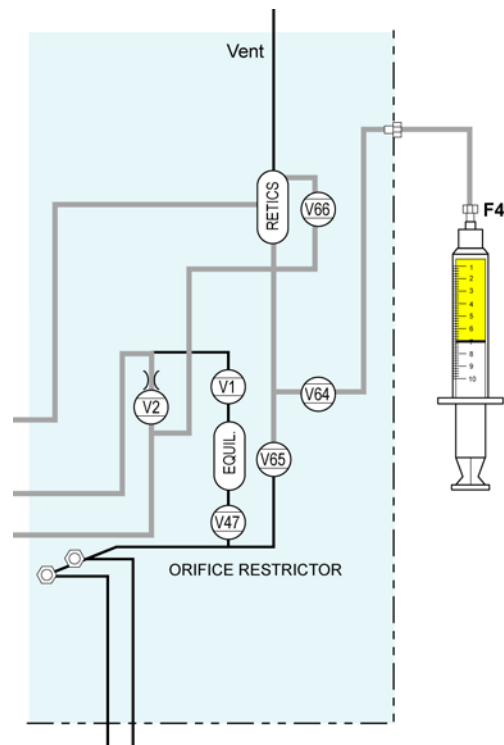

Figure 14. Syringe with 25% bleach connected to V64 pathway
1. Connect a syringe, PN 113-B911-01, filled with 25% bleach to fitting **F4**. See **Figure 14**.